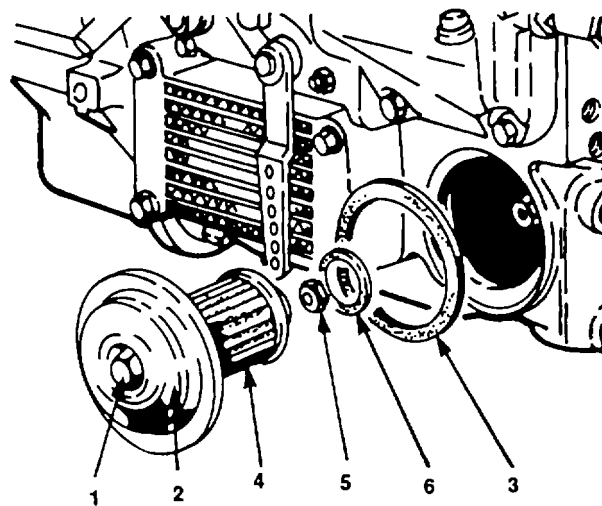

Figure 3-23. Lube Oil Filter
- a Unscrew hexbolt (1, figure 3-23).